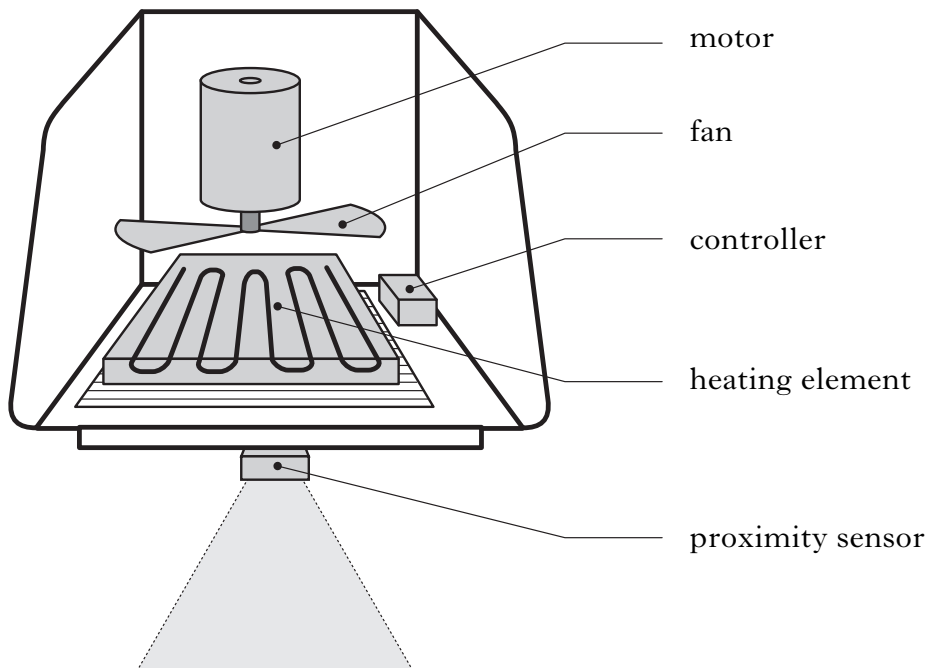

Figure Q8
8. An automated hand dryer, shown in Figure Q8, consists of a controller, a proximity sensor, a heating element and a motorised fan. The system is designed to blow warm air for 1 minute after the proximity sensor is activated and then stop automatically. The heating element is interlocked to the motorised fan and cannot operate until the fan is running. The heating element is switched off 5 seconds before the fan is stopped.